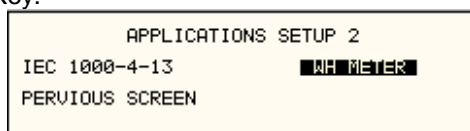

Figure 9-59: Application Screen
- From the Menu screen 2, select the APPLICATIONS SETUP 2 screen. The screen will appear as shown in Figure 9-59. Use the up and down key to position the cursor to the WH METER field. Press the Enter Key.